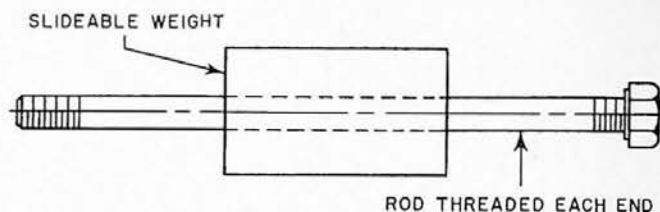

FIGURE 23B
To remove blind sealing plugs, valve plungers, etc., use a plug puller similar to Figure 23B.
2. Use plug puller (Figure 23B) to remove drive plug (162, page 62). Loosen set screw in lock nut (163), tap screw to release locking shoe beneath it and remove lock nut from shaft. Tap "D" shaft (159) out front of machine with roller bearing (160) attached.
3. Pull bearing cap (151) from front of machine. Loosen set screw in lock nut (144), tap screw to release locking shoe beneath it and remove nut from shaft. Support cluster gear (147) and tap cluster gear shaft (150) out front of column.
4. Loosen gib clamp and remove overarm (4AC-10, page 58) from top of column. Support overarm as it is withdrawn from column guides. Remove column cover plates (85, 87), arbor draw-in bolt, spindle keys (74), spindle cap (77) and spindle bearing cap (97). Place a 1 inch square bar in spindle key slots to keep spindle from turning. Loosen set screw in lock nut (98), tap screw to release locking shoe beneath it and remove nut from shaft. Loosen lock nuts (128, 132) in the same manner. Turn flywheel until the keyway in spindle is pointing straight up and insert a 1/2" eyebolt into hole of flywheel rim and support flywheel with a bar across top of column. Support bull gear from a crane by means of a clamp. Tap spindle shaft forward slightly, then back and remove bearing key (71).